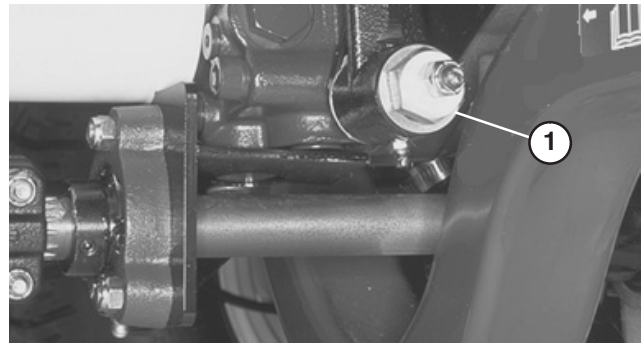

Figure 61
3. Under right side of machine, loosen locknut on traction adjustment cam (Fig. 61).